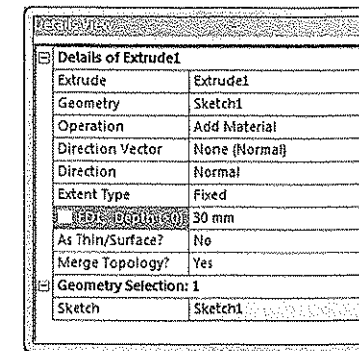

Figure 8-44 The **FD1, Depth (>0)** edit box in the **Details View** window
9. In the **Details View** window, specify **30** as the length of extrusion in the **FD1, Depth (>0)**, edit box, refer to Figure 8-44.